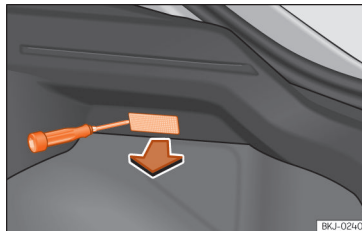

Fig. 62 Boot light.
- Extract the bulb by pressing on its inside edge using the flat side of a screwdriver »» **Fig. 62.**